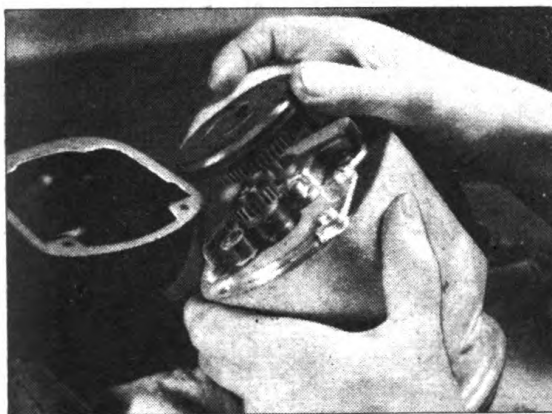

Fig. 43. Method of Removing or Properly Meshing Distributor Gear with Steel Gear
2. The red dot on the steel gear directly under one tooth must mesh between two beveled teeth on the distributor gear. Fig. 43. The bevel on the two teeth on the (canvas base bakelite) distributor gear must be on the side of the gear next to the red distributor disk. If the bevel on the teeth is on the side away from the distributor disk, the gear is on the shaft wrong and should be turned over.
1. Remove the distributor disk. Fig. 43.
- (a) Replace the distributor disk with a new one. Fig. 43.